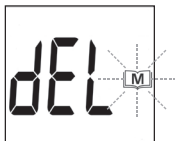

Figure 16
If you want to clear ALL memory, press the “**M**” button for four (4) seconds. See Figure 16.